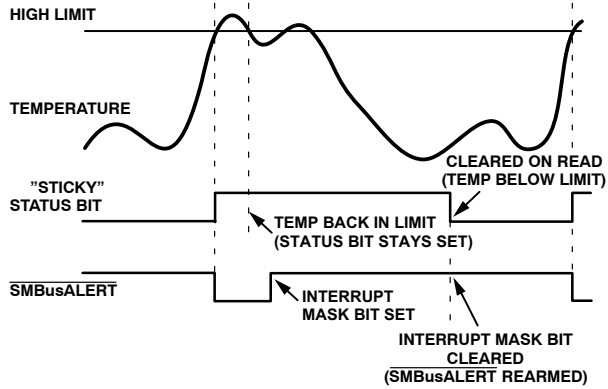

Figure 31. Handling SMBusALERT
7. Periodically poll the status register. If the interrupt status bit clears, reset the corresponding interrupt mask bit to 0. The SMBusALERT output and status bits then behave as shown in Figure 31.